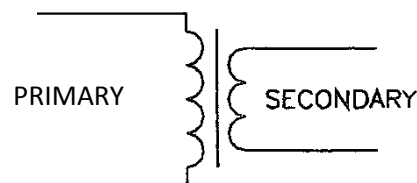

Figure 3 - Single phase transformer symbol.
12. In this type, the primary and secondary windings are insulated electrically, but they are connected magnetically (by mutual induction). The symbol for a double wound transformer is shown in Figure 3: